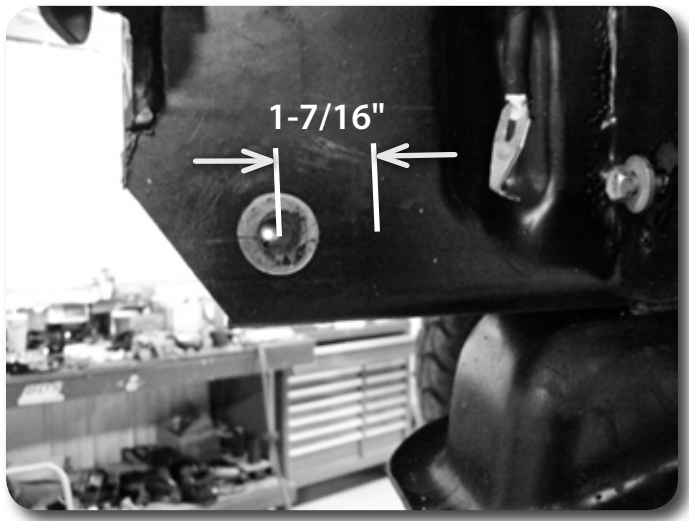

Figure 12
22. Locate the factory tow hook mount holes in the front of the frame rails. The driver's side of each frame rail will only have one tow hook hole. Measure straight back from the center of the existing hole $1\text{-}7/16$ " and mark. **Figure 12** Drill a $1/2$ " hole at the mark (one hole per frame rail).